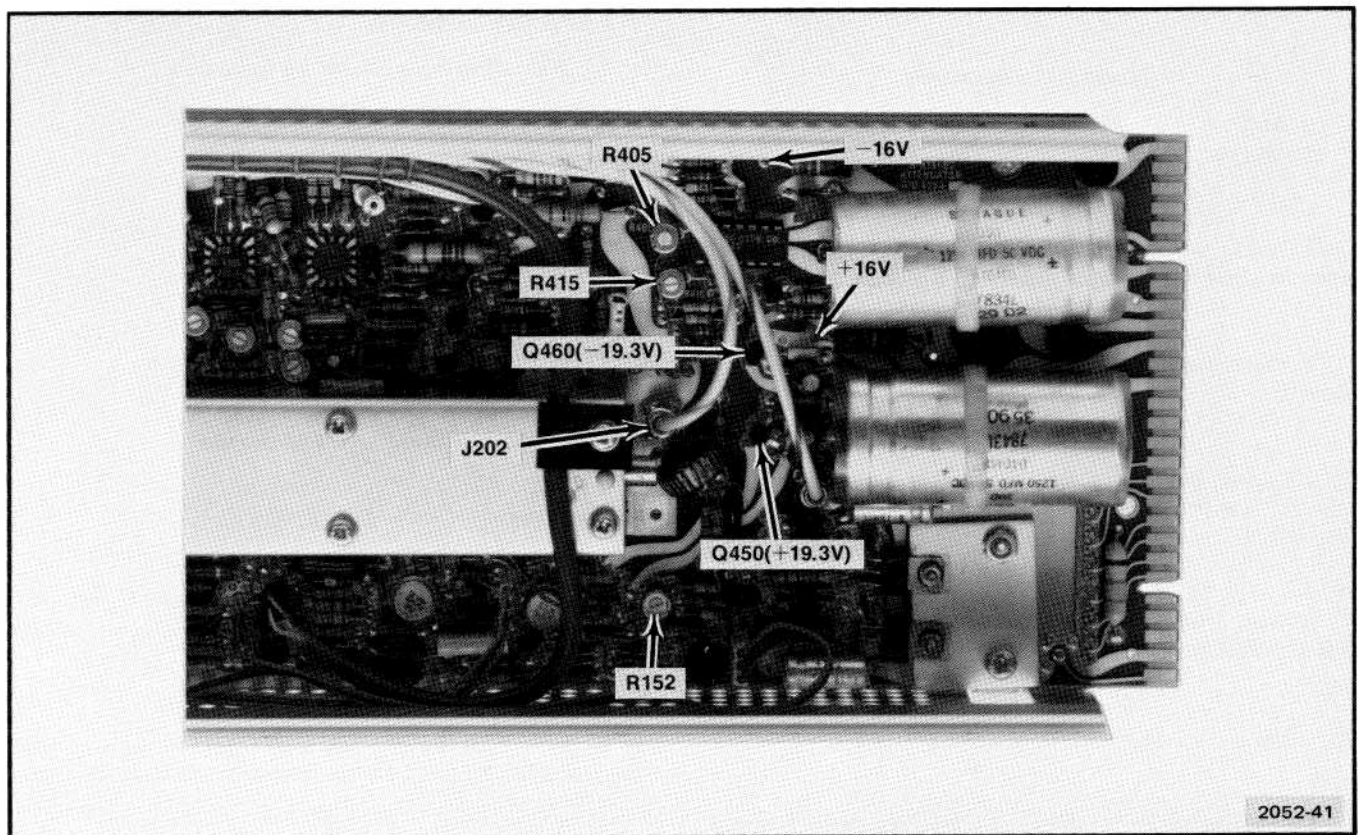

Fig. 3-2. Power supply test point and adjustment locations.
- a. Connect the DVM between each voltage test point and ground for the supplies listed in Table 3-2. See Fig. 3-2 for test point and adjustment locations.
h. Adjust—R152, Degauss Offset (see Fig. 3-2), for zero volts dc (trace positioned on center graticule line).